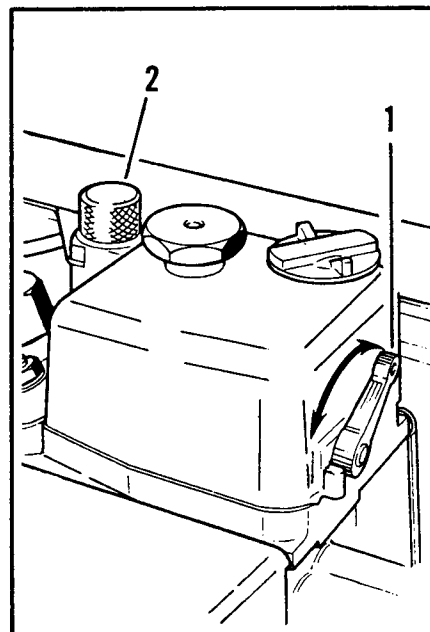

Fig. 9 Decompression Levers
1. Observe items 1 through 5 of "Starting Procedure for Average Temperature Conditions".
3. Turn the decompression levers (Figure 9, Item 1) first toward and then away from the flywheel. The decompressors will disengage automatically after about ten crankshaft revolutions, and the engine should fire.
4. Remove the priming plungers (Figure 9, Item 2). Fill the priming chambers with engine oil - NOT fuel. Replace the priming plungers and press down.